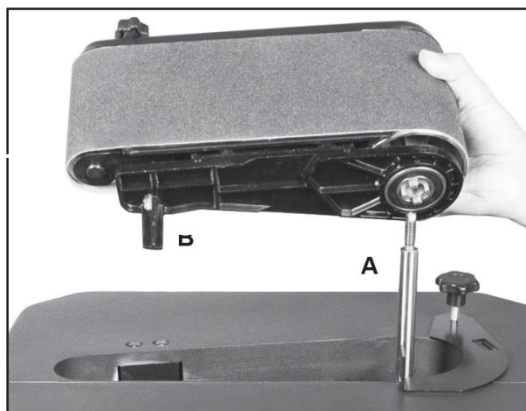

Figure 5: Installing the Belt Assembly.
- 4- Install the sanding belt attachment by sliding the unit over the drive spindle Figure 5 A, and insert its lower T slot into the table's T groove Figure 5 B.